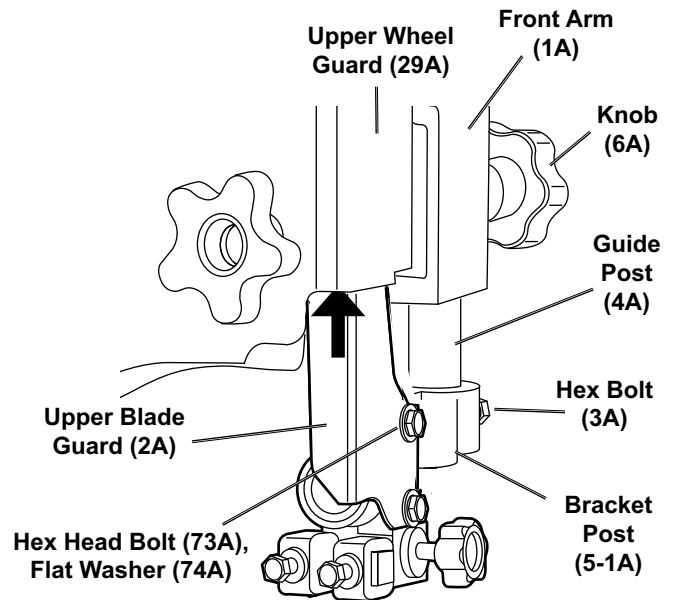

Figure 13
3. Slide the Upper Blade Guard (2A) up into the inside of the Upper Wheel Guard (29A) where the wheel resides. See Figure 13.